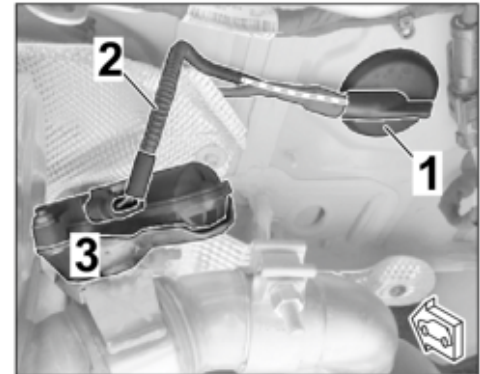

Figure 34
3.3.4 **ONLY** if a grommet with several lines is installed on the underside (including an exhaust flap branch (left / right of the standard rear silencer ⇒ *Figure 34*):